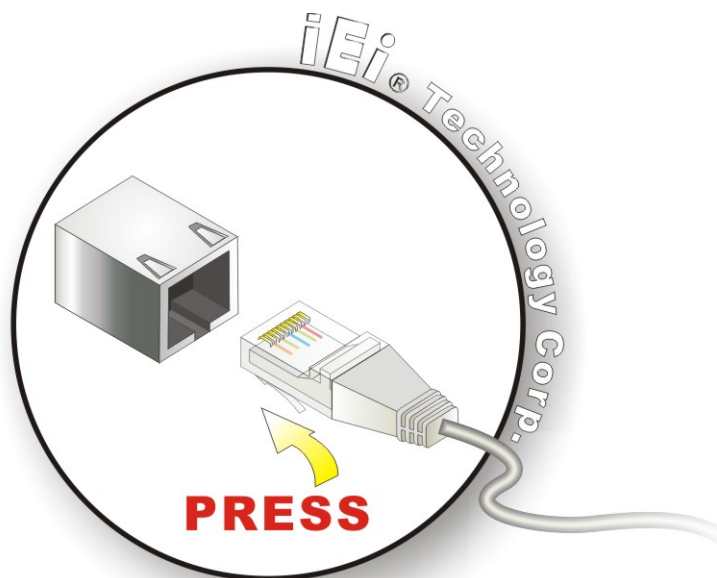

Figure 4-12: LAN Connection
Step 2: Align the connectors. Align the RJ-45 connector on the LAN cable with one of the RJ-45 connectors on the IOWA-LX-600. See Figure 4-12.